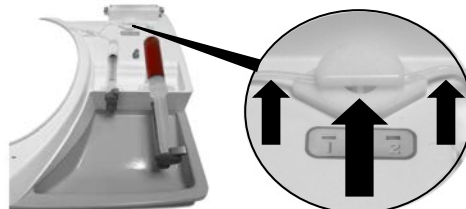

Figure 8. Stretch syringe 2 tubing and slide into pinch valve.
25. Gently stretch the tubing attached to syringe 2 and slide it completely into pinch valve opening (see Figure 8).